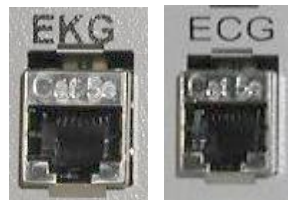

FIGURE 2-9 CONSOLE CONNECTORS USED FOR VCT EKG/ECG VIEWER
1. At the back of the Operators Console locate the RJ45 Cardiac Monitor cable pre-wired at system Installation (PN# 2373436-4). Plug this cable into the EKG/ECG output. Refer to figure 2-9.